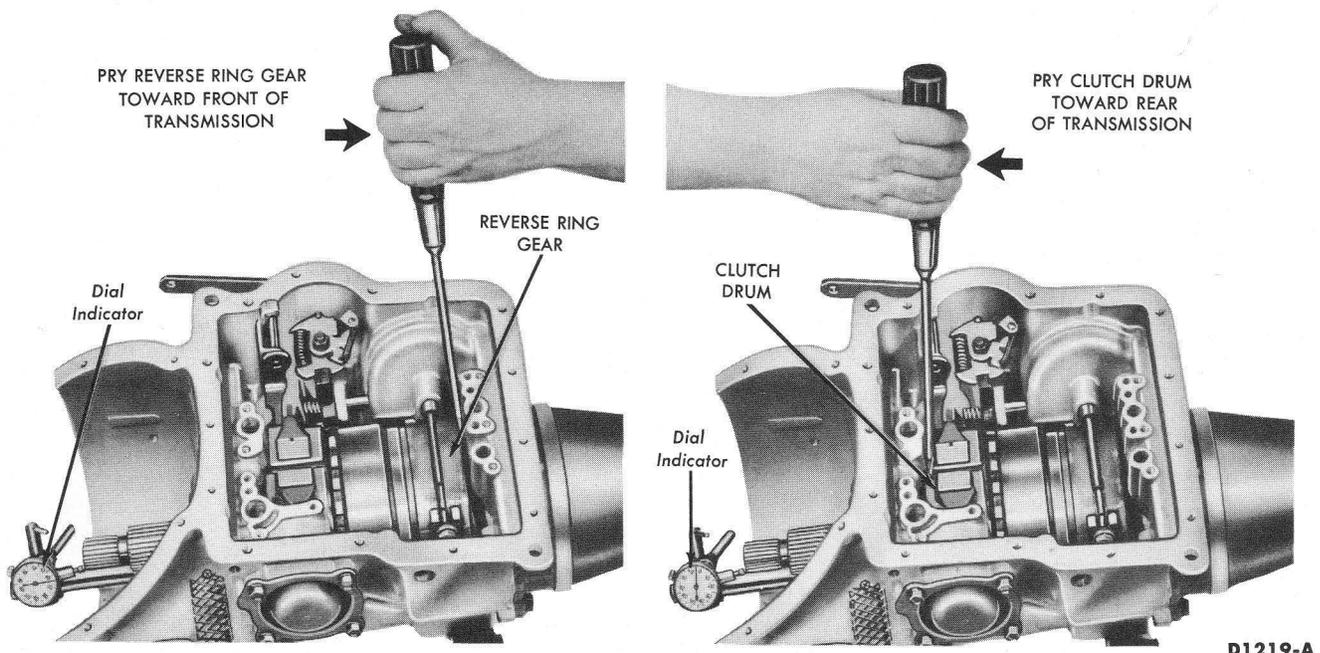

FIG. 2—Transmission End Play Check
4. Now pry the clutch drum to the rear (Fig. 2). Record the indicator reading for use during transmission assembly. End play should be between 0.020 and 0.039 inch.
1. Mount a dial indicator on the transmission case so that the contact rests on the end of the primary sun gear (turbine) shaft as shown in Fig. 2.
3. Pry the reverse ring gear (Fig. 2) forward with a large screwdriver.
1. If the extension housing seal or bushing is to be replaced, use the tools shown in Fig. 2, Part 6-4.